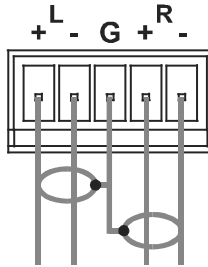

Figure 4: Connecting a Balanced Stereo Audio Output
- A balanced output connection, see Figure 4